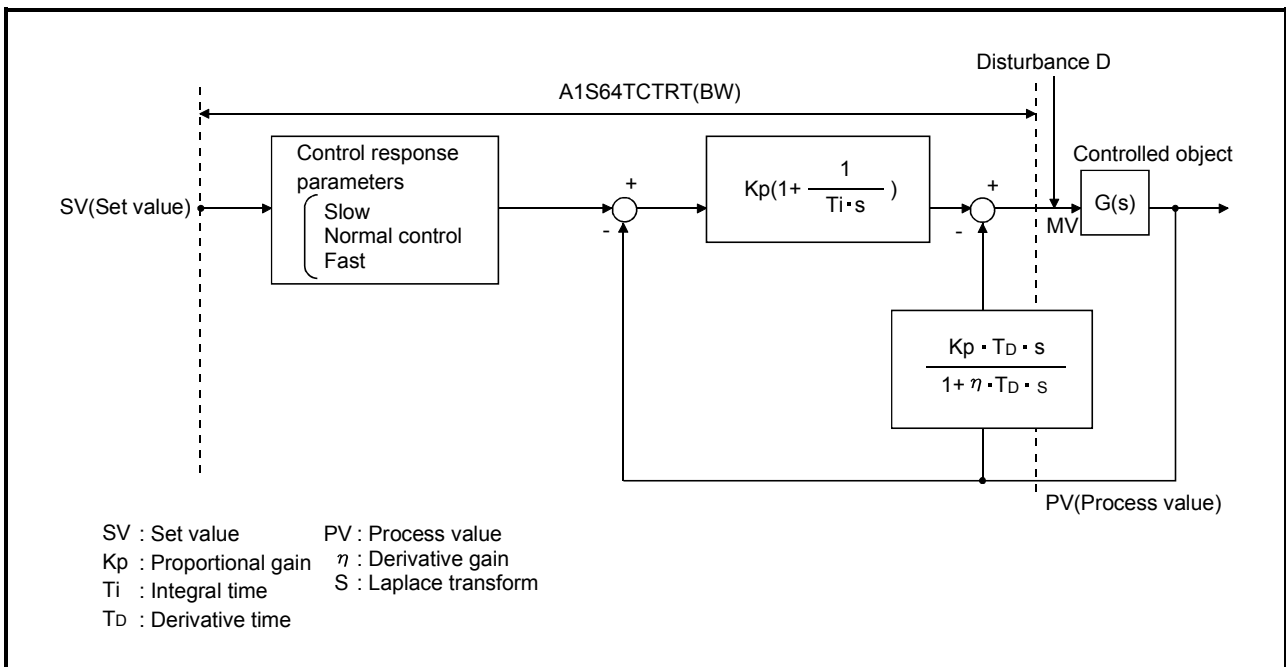

Fig. 1.8 Algorithm of PID control in process-value incomplete differentiation
(1) The algorithm of the PID control in process-value incomplete differentiation is shown in Figure 1.8.